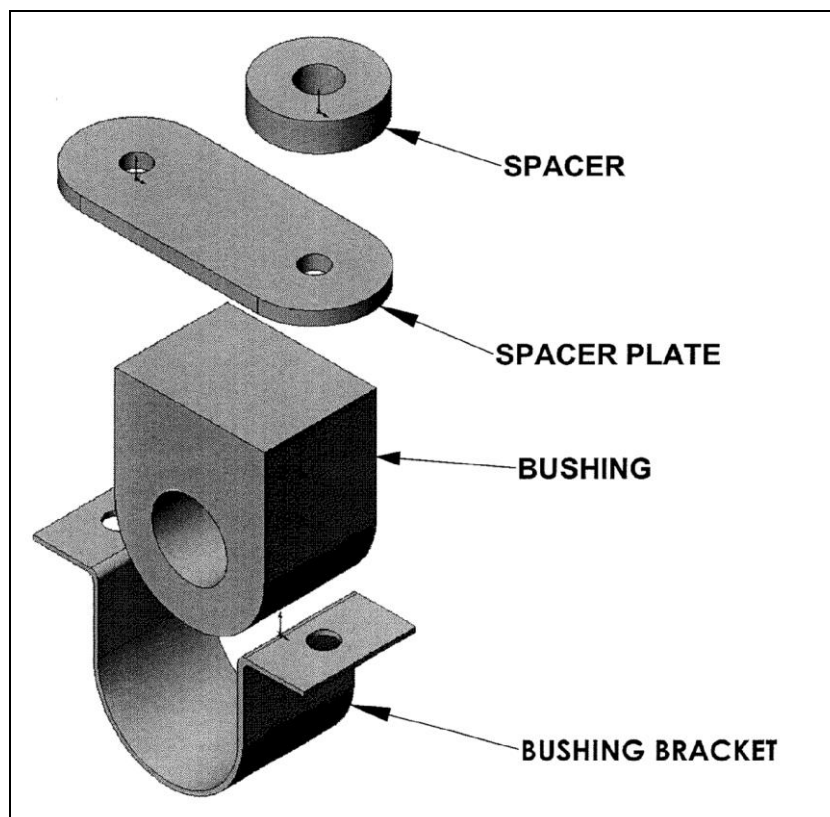

FIG. 1
- On this particular Anti-Sway Bar kit, the left and right front (drivers' and passengers' side) sides, spacers are needed. Located between the spacer bar and the chassis, the rear mounting holes (towards the rear of the vehicle) is where the spacer should be located. (See Fig. 1)